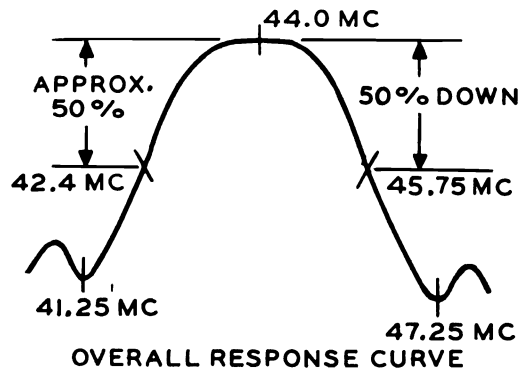

Fig. 5
2. Adjust converter plate coil (L-9) and I-F input coil (L200) to give response shown in Figure 5.
Several adjustments back and forth between the converter plate coil and 1st I-F input coil will be required to obtain the response shown in Figure 5.